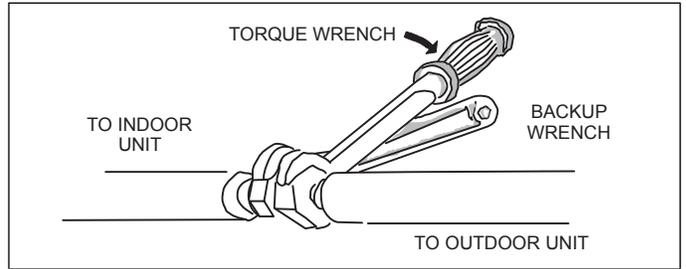

**Figure 31. Making Connections (Male to Female Connection)**
15. Align the threaded connections with the flared refrigerant lines. Tighten the flare nuts lightly at first to obtain a smooth match as illustrated in "Figure 31. Making Connections (Male to Female Connection)".